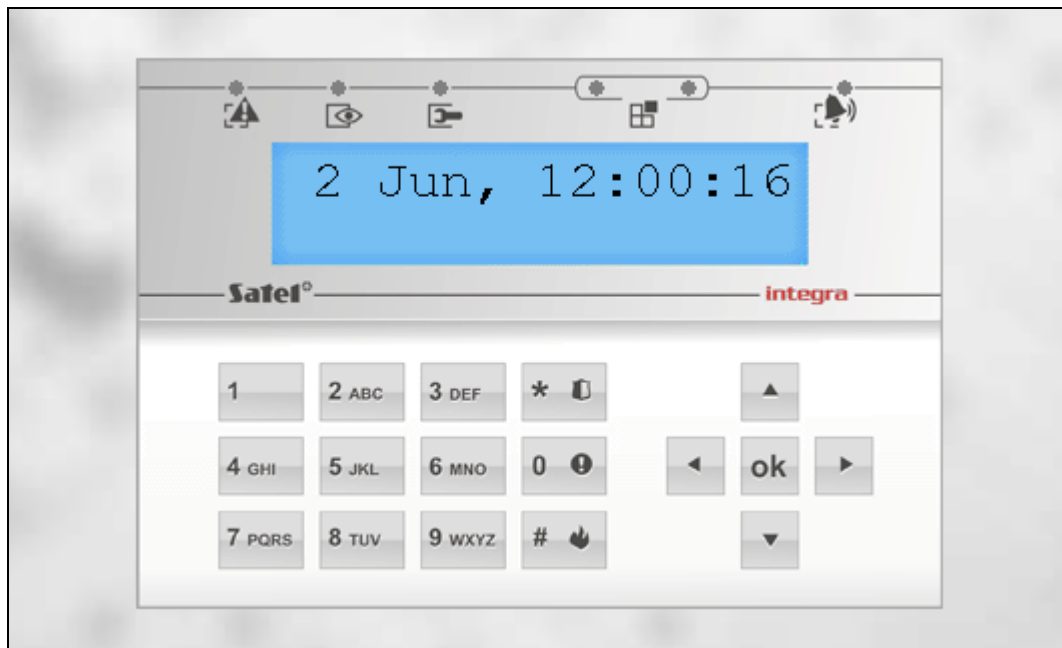

Fig. 21. Web browser: virtual keypad.
5. The virtual keypad will be displayed in the browser (Fig. 21).